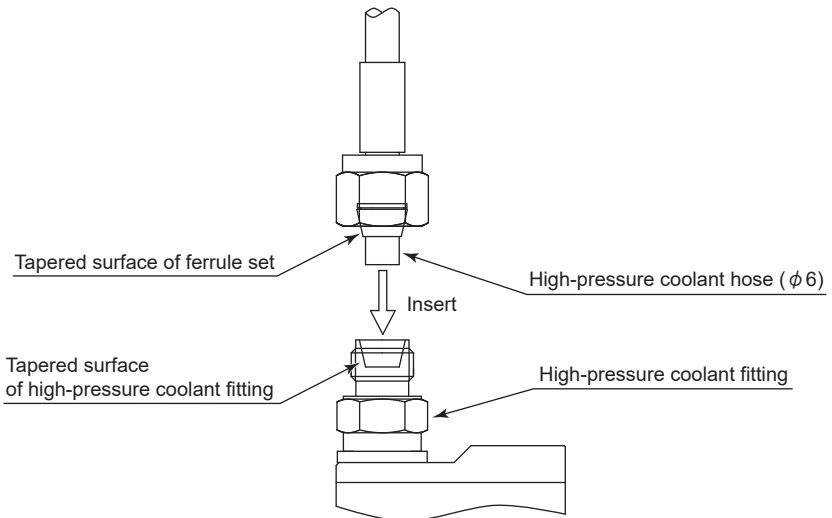

Fig. 23
- ① Insert the high-pressure coolant hose (diameter $\phi 6$ mm) so that the tapered surface of the ferrule set fastened to the high-pressure coolant hose (diameter $\phi 6$ mm) fits tightly against the tapered surface of the high-pressure coolant fitting. (Fig. 23)